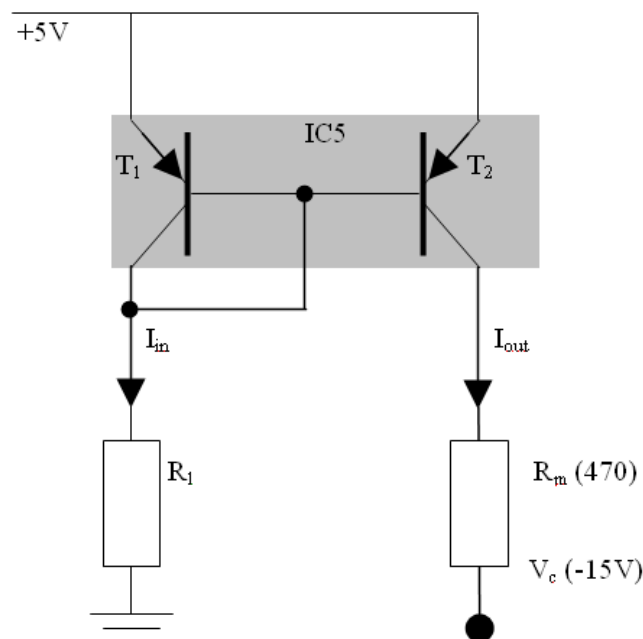
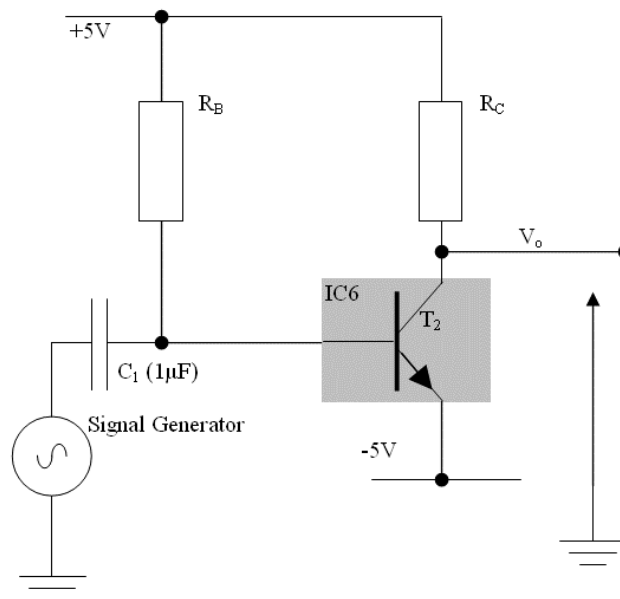
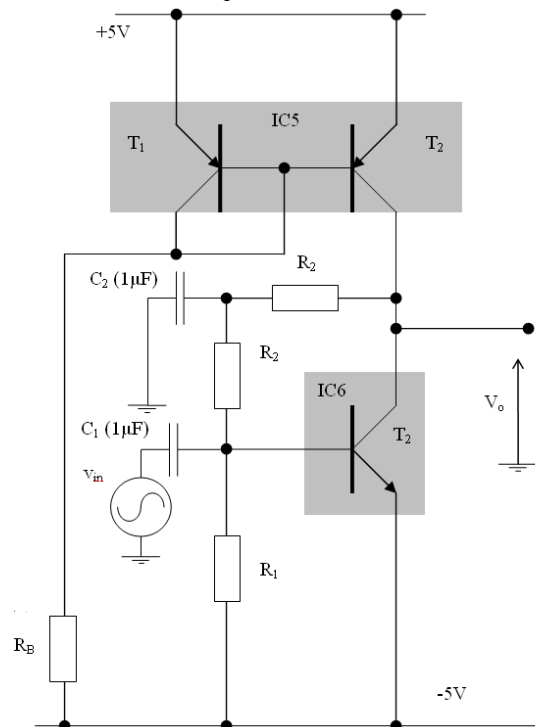

Figure 5 Implementation of simple current mirror
Figure 7 Common emitter circuit
Figure 9 CE stage with active load
Diode-connected transistor  $T_{1(5)}$  (see Figure 5) fixes the base-emitter voltage of  $T_{2(5)}$ . The collector-base connection of  $T_{1(5)}$  is necessary to ensure that both  $T_{1(5)}$  and  $T_{2(5)}$  get their required base current, as mentioned earlier.
In op-amp design, it is desirable to have a high voltage gain from a single amplifier stage. The most common configuration of a high gain voltage amplifier is the common emitter (CE) configuration (the emitter being the common point to input and output voltages). In fact, the CE stage is the only single transistor configuration that gives high voltage and high current gain simultaneously. Figure 7 shows a simple common emitter amplifier, together with associated biasing circuitry.
- In a fresh schematic, simulate the CE amplifier (Figure 7). Make sure that you have set the  $-5V$  rail. Check that all DC levels of the amplifier are as you expect.
- Copy your previous circuit to a new schematic and replace  $R_C$  (Figure 7) in the single stage CE voltage amplifier, with the collector output of transistor  $T_{2(5)}$  in the simple current mirror design (from section 5) as shown in Figure 9.
- Note that now  $R_1$  (Figure 5), has been replaced by a resistor with a terminal connected to the -5V rail ( $R_B$  in Figure 9). Choose  $R_B$  to obtain an input current (into IC5) of 1 mA.